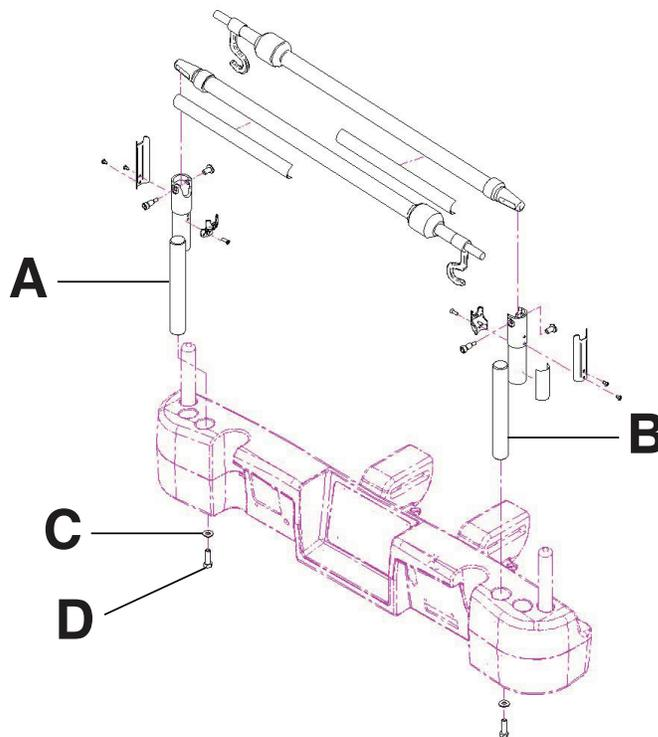

Figure 82: Dual two stage IV pole
1. Using a 3/8 in. drive ratchet and a 1/2 in. socket, install one washer (C) and one bolt (D) to secure the IV pole to the socket at the head end of the product (A) (Figure 82 on page 93).
2. Using a 3/8 in. drive ratchet and a 1/2 in. socket, install one washer (C) and one bolt (D) to secure the IV pole support into the socket at the head end of the product (B) (Figure 82 on page 93).